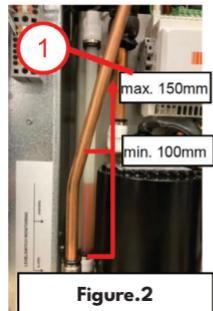

Figure.2
- If coolant level is below the warning level (Figure.2 no.1), refill coolant according to the instruction case.2
- Check: Coolant level must be as shown in Figure.2 no.1 (min. 100mm, max. 150mm).
- Coolant level must be minimum 100mm and maximum 150mm according viewing pipe (Figure.2, no.1)
- Check: Coolant level must be as Figure.2 no.1. If coolant level is below 100mm, refill according instruction in case 2.